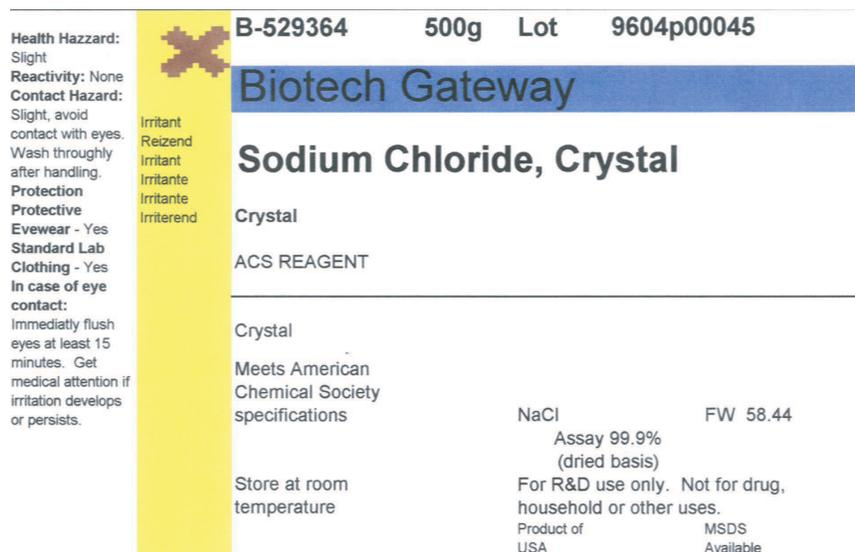

Figure 1
1. One empty chemical bottle of NaCl with the label shown in Figure 1. The label should indicate the formula weight of the NaCl as 58.44g. You can cut the label out that is given below and paste it to an empty plastic bottle.